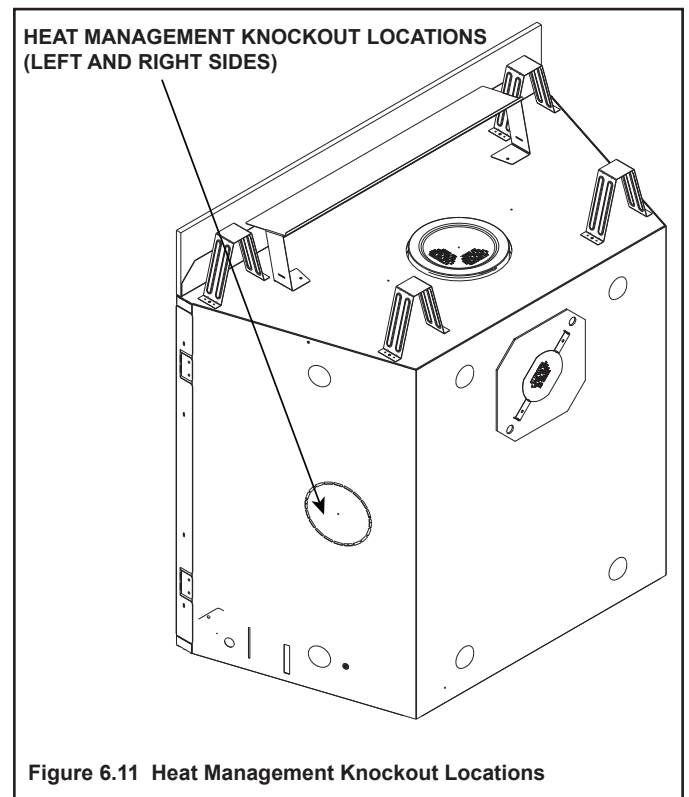

Figure 6.11 Heat Management Knockout Locations
- Locate the heat management ports on the left and right sides of the appliance. Either one or two Heat-Zone® -Gas Kits may be installed. Remove the knockout from the fireplace and discard it. See Figure 6.11.